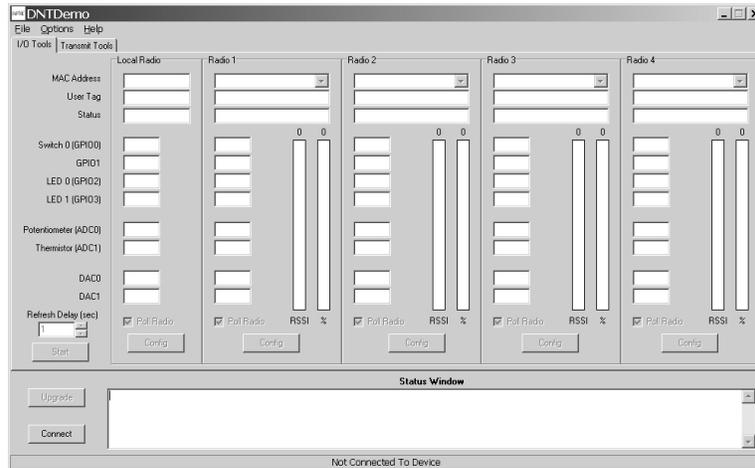

Figure 4
- Start the Demo on the PC. The Demo program start-up window is shown in Figure 4.